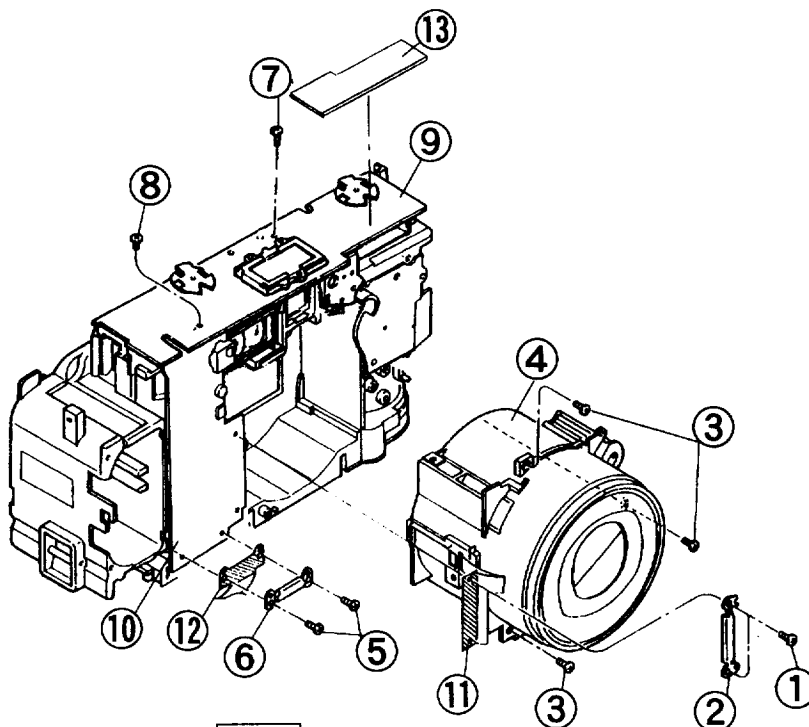

Fig2
LENS BARREL UNIT (Fig. 2)
- (1) Peel off the SHIELD. (Fig. 2-⑬).
- (2) Unsolder three LEAD WIRES (Black, Orange, White: ZP PLATE) on the MAIN PCB.
- (3) Unsolder 9 soldering point between the MAIN PCB and the AF FPC. (e)
- (4) Unsolder 13 soldering point between the MAIN PCB and the D FPC. (f) (DATE MODEL only)
- (5) Unsolder 5 soldering point between the MAIN PCB and the LED FPC. (d)
- (7) Unsolder 6 soldering point between the MAIN PCB and the MOTOR FPC. (a)
- (8) Unsolder 3 soldering point between the MAIN PCB and the FLASH PCB. (b)
- (9) Take off two SCREWS (⑤) and remove the FPC HOLDER A (⑥) then peel off the SHUTTER FPC (⑫).
(Fig.2)
- (10) Take off the SCREWS (⑦&⑧) the remove the MAIN PCB (⑨) and the FRONT PCB (⑩) together. (Fig. 2)